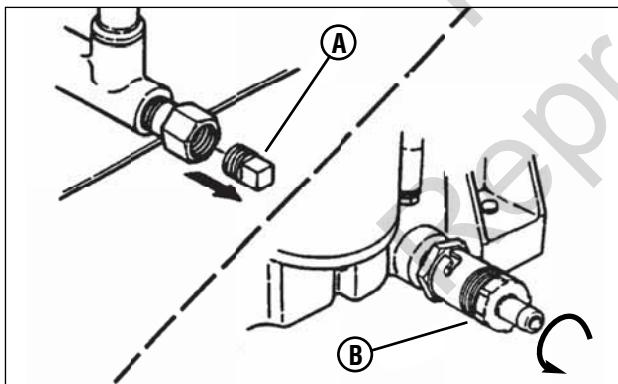

Figure 19: Oil drain plugs
3. Place a 2 quart minimum capacity container under the end of the oil drain (**Figure 19**).
4. Remove or open the oil drain plug (**A or B, Figure 19**), depending upon the type of oil drain plug the engine is equipped with.